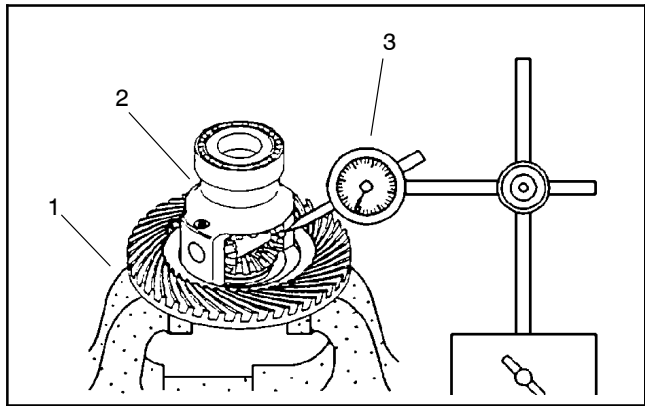

Figure 44
5. Secure the differential case in a soft jawed vise. Position a dial indicator on a tooth of the differential pinion gear. Press the pinion and side gear against the differential case and measure the pinion gear to side gear backlash (Fig. 44).